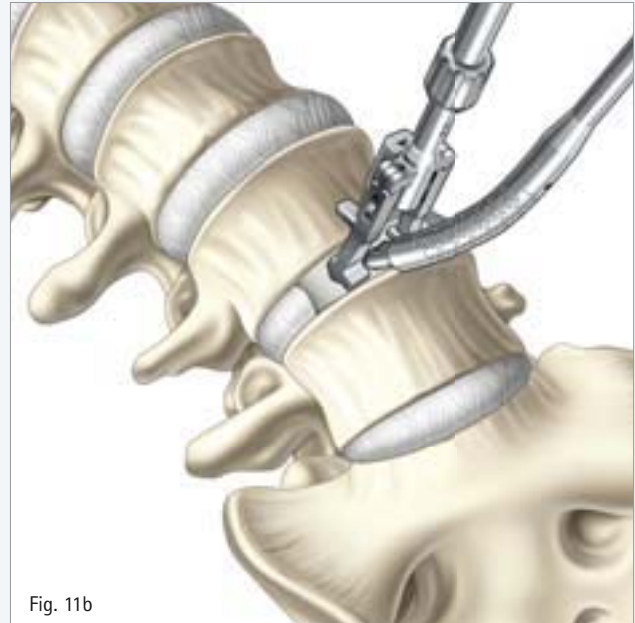

Fig. 11b
- Guide the flexible bone awl through the distal opening of the implant insertion instrument (caudal side) (Fig. 11b).